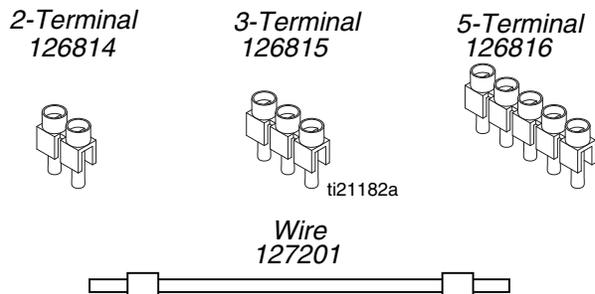

FIG. 13: Jumpers
4. Ensure the terminal block jumpers are in the correct locations for the phase and voltage used. If necessary, change them to match FIG. 15 on page 19. See the following table, FIG. 13, and FIG. 15.